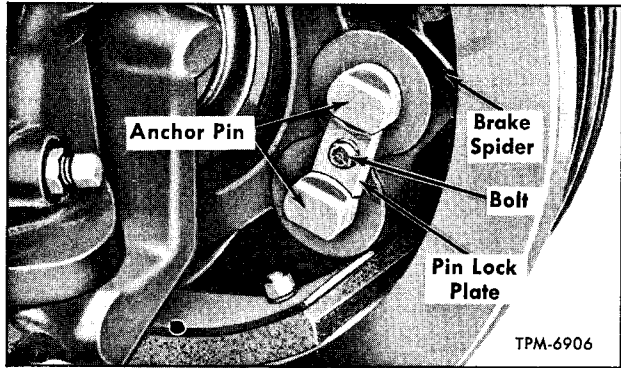

Figure 10—Front Brake Shoe Anchor Pins Installed (Typical)
Anchor pin end of each shoe fits between brackets at brake spider, and is retained by straight type anchor pin (fig. 10). Both anchor pins are held in place by a lock plate which engages notches in end of each pin and is attached to brake spider by a cap screw. Anchor pin ends of shoes are equipped with replaceable bushings.
3. Install brake shoes at brake spider in same position from which they were removed. Insert anchor pins through brake spider and shoes. Turn anchor pins so notches in inner end face each other. Install anchor pin lock plate and secure with cap screw and lock washer (fig. 10).